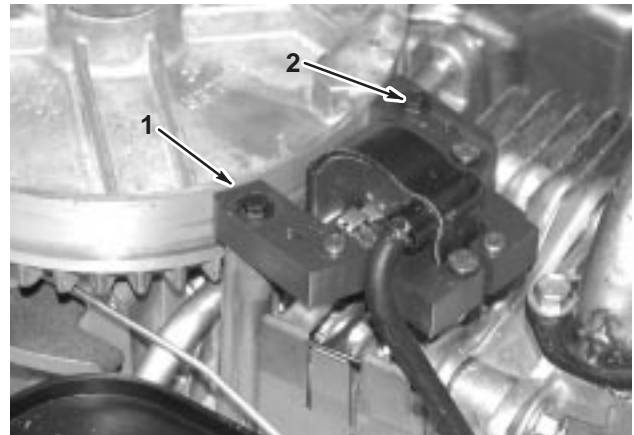

Fig. 17 – Installing Armature
3. Install armature and mounting screws, Fig. 17.